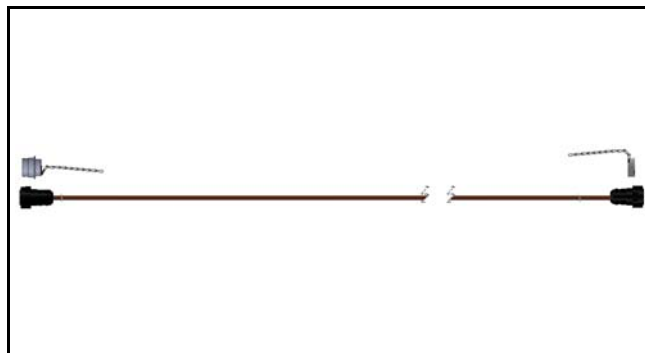

Figure 13
**[Figure 13]** - Connect the power harness extension to the 3-section module harness and to the system power harness. Attach the harness to the frame with cable ties.